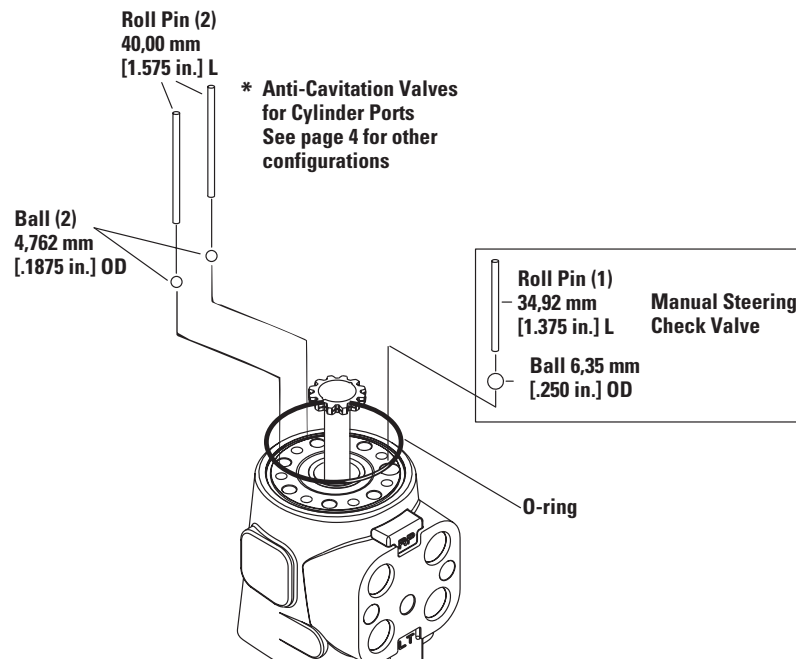

Figure 25
20. Install 72,6 mm [2.86 in.] ID O-ring in housing (figure 25).
21. Install anti-cavitation valves and manual steering check valve (if used) in holes, as shown in figure 25. After installing balls, inspect holes to make sure they are properly seated.